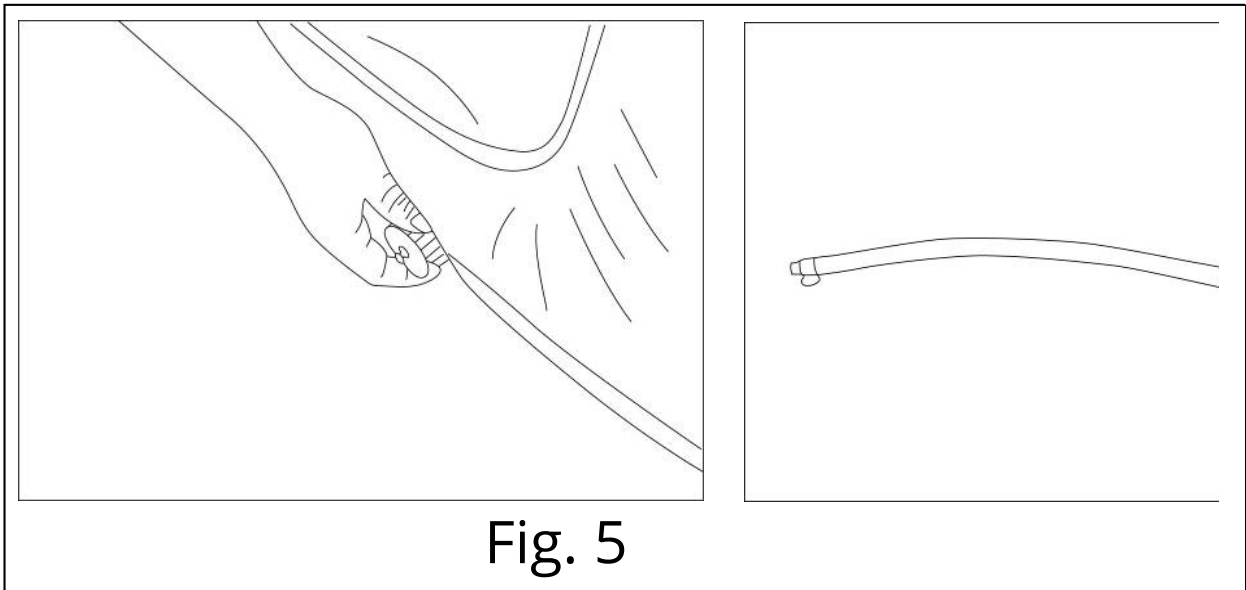

Fig. 5
- 4) Remove the Drainage Plug (Part f) from the floor of the Spa, so water can flow out (Fig.5).